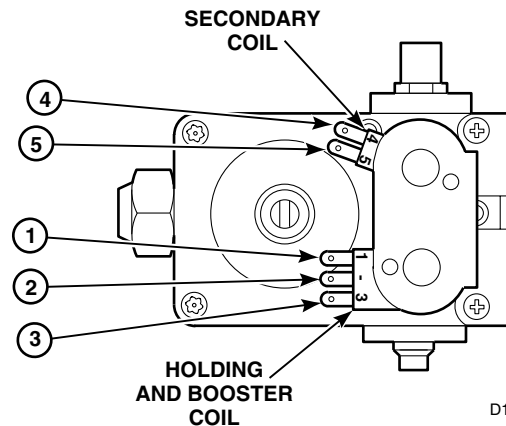

Figure 21
- a. Holding Coil (Refer to *Figure 21*) – Terminals 1 and 2 - Meter should read  $1365 \pm 25$  Ohms.
- b. Booster Coil (Refer to *Figure 21*) – Terminals 1 and 3 - Meter should read  $560 \pm 25$  Ohms.
- c. Secondary Coil (Refer to *Figure 21*) – Terminals 4 and 5 - Meter should read  $1220 \pm 50$  Ohms.